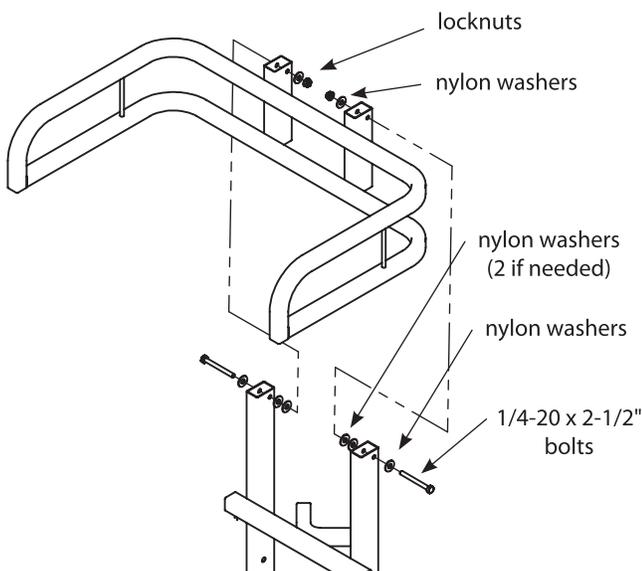

Figure 1
1. Attach the seat frame weldment (CXR15) to the seat post (CXR14) using (2) provided 1/4-20 x 2-1/2" bolts, locknuts and (6 to 8) nylon washers. **SEE FIGURE 1. DO NOT tighten all nuts and bolts completely!**